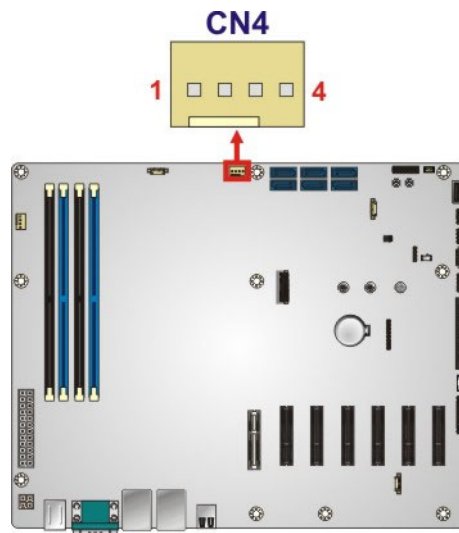

Figure 3-12: System Fan Connector Location
- CN Location:** See **Figure 3-12**